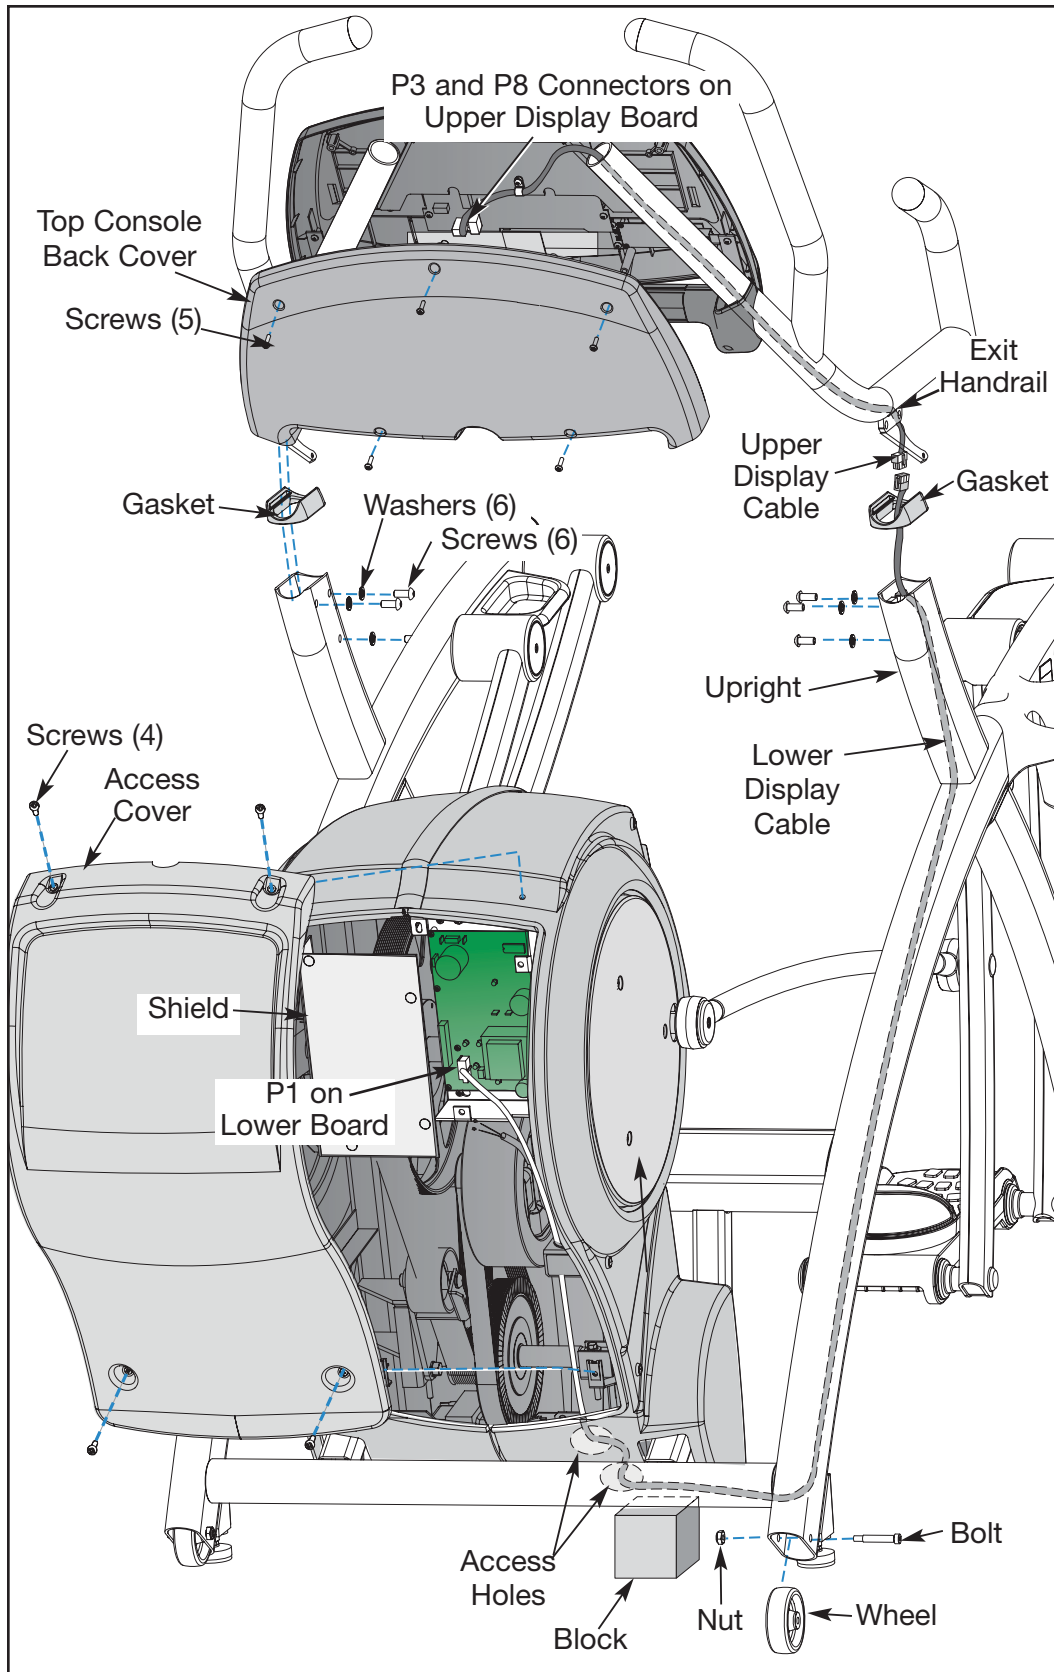
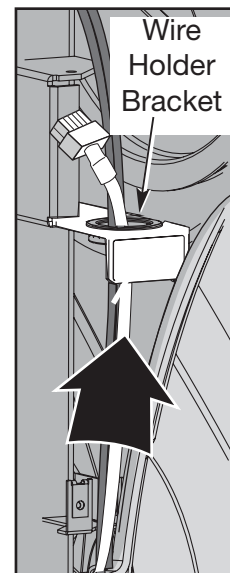

Figure 30
Figure 32
- A. Using a Phillips head screwdriver, loosen the wire retaining screw securing the display cable in place near the display board. See Figure 30.
- B. Using a 9/16" wrench and a 3/16" hex key, remove the bolt and nut securing the left wheel in place. See Figure 30.
- B. Disconnect the display cable from the lower board. See Figure 30.
- C. Remove the lower display cable from the wire holder bracket. See Figure 32.
- E. Confirm that the cable is routed through the access holes (see Figure 30) and through the wire holder bracket (see Figure 32).